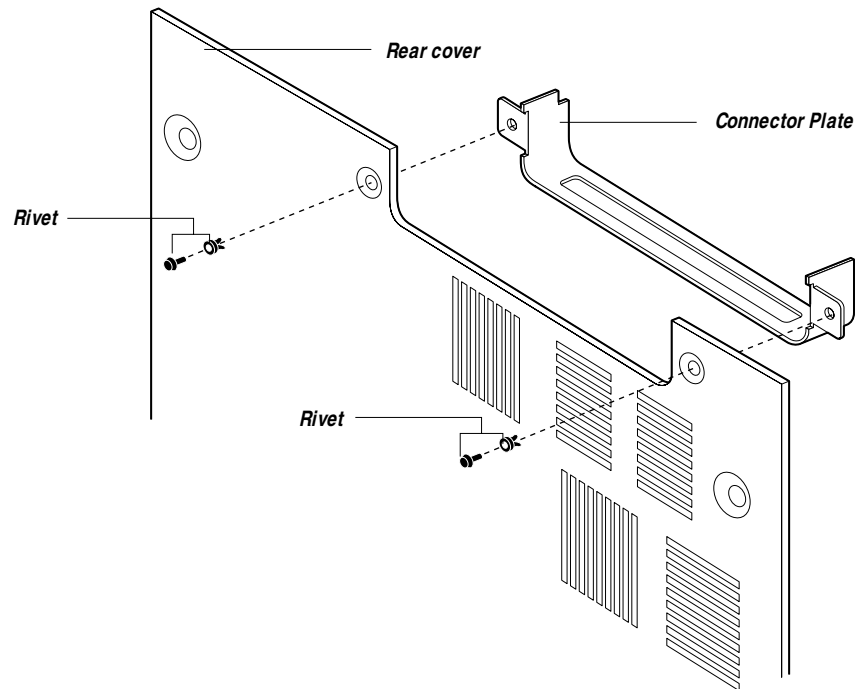

Figure 2-5 Installing the connector plate in the rear cover
2. ***Place the connector plate in the empty slot on the inside of the rear cover (see Figure 2-5 on page 2-7).***
3. ***Insert the black rivets into the connector plate to secure it to the rear cover as shown in Figure 2-5.***